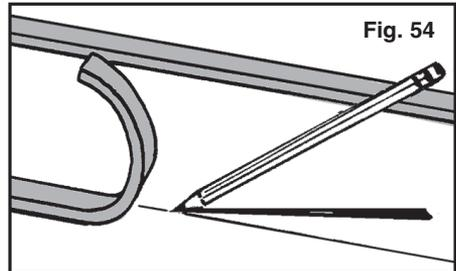

Fig. 54
2. Starting at the large paved town area, lay Paving Tape along outline of drawn road to form borders (Fig. 54).